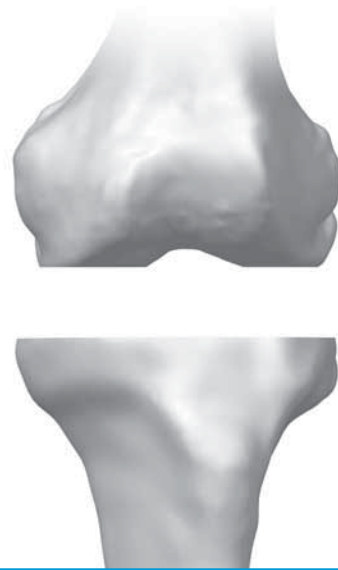

Fig. 14
1. Perform Distal Femoral and Proximal Tibial Resection (Fig. 14)